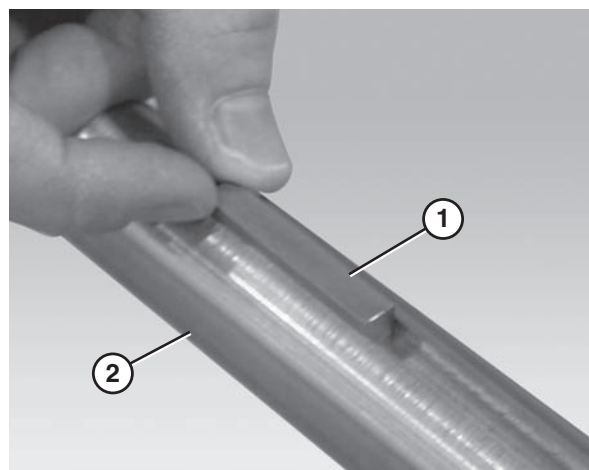

Figure 18
1. Insert the drive spindle key (Figure 18, item 1) into the drive spindle keyway (Figure 18, item 2).